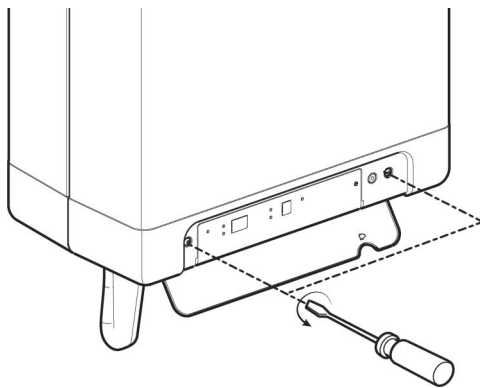

Fig. 1: Control Panel Screws
3. Remove the front panel by flipping down the display cover and loosening the (2) Phillips head screws at the control panel as per Fig. 1. Pull bottom of front panel forward to remove.